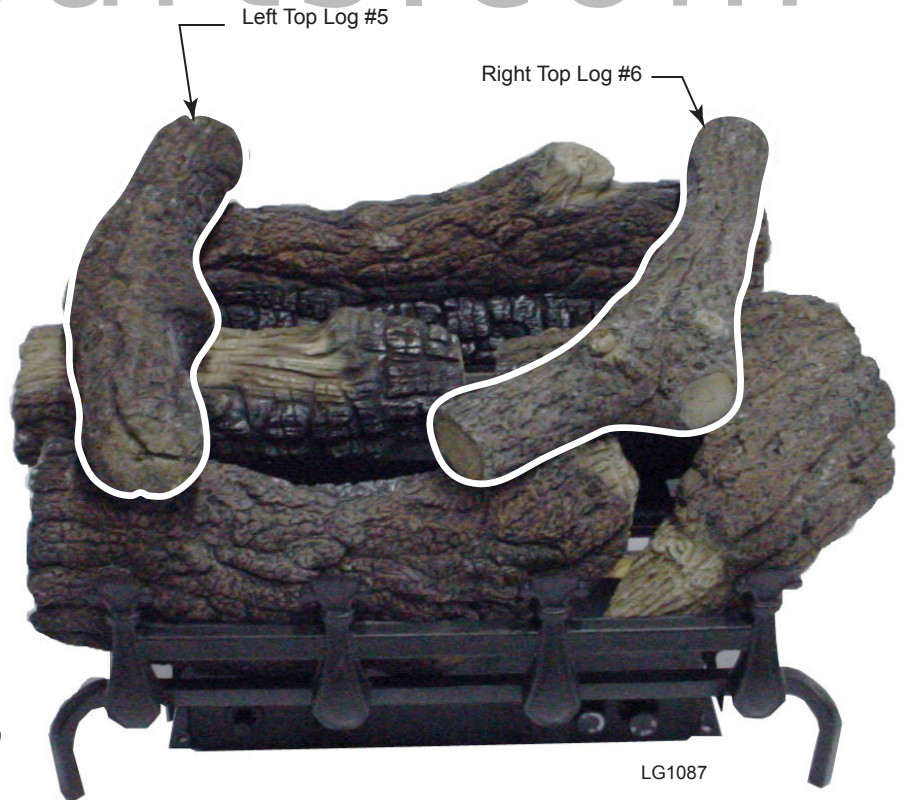

Figure 19
- 5. Rest Left Top Log (#5) on front and rear log cutouts. *Figure 19*
- 6. Rest Right Top Log (#6) on front and rear log cutouts. *Figure 19*